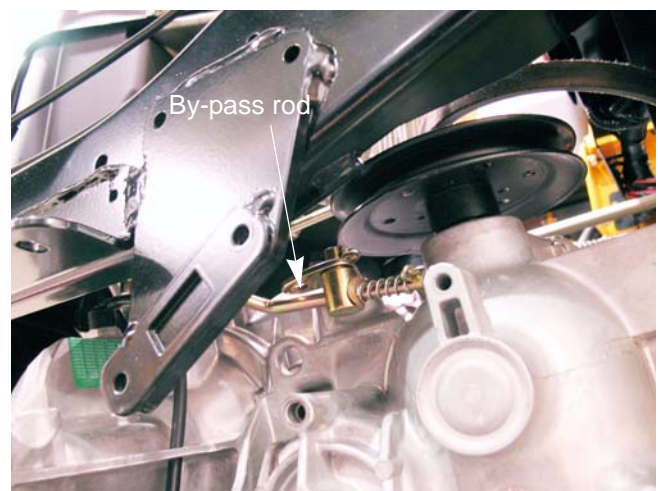

Figure 5.14
13. Remove the hair pin clip that secure the by-pass rod to the by-pass lever. See Figure 5.14.
17. Remove the hair pin clip that secure the by-pass rod to the by-pass lever. See Figure 5.14.